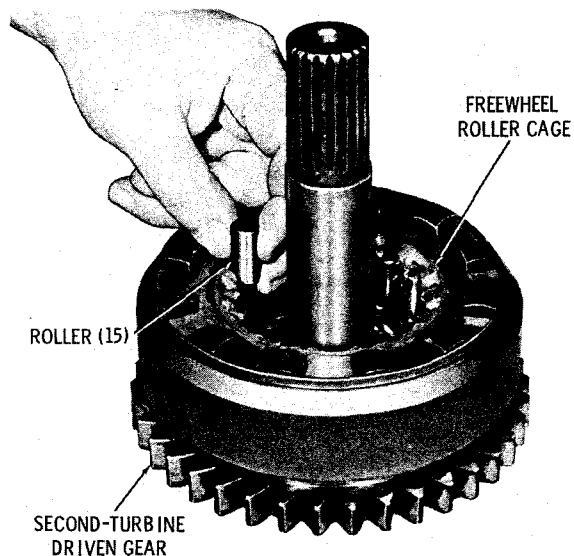

Fig. 6-13. Installing roller into roller cage
(7) Install fifteen rollers into the cam pockets; use oil-soluble grease to retain the rollers in the cage (fig. 6-13).